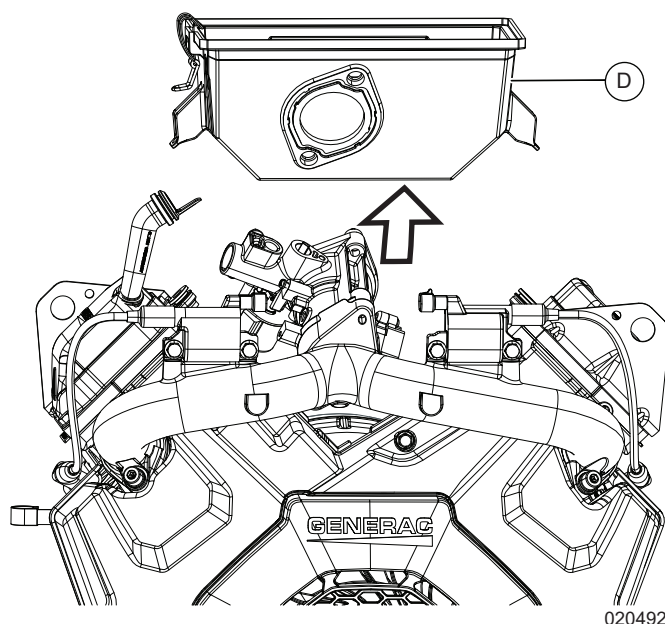

Figure 6-10. Remove Air Box Base From Engine
- See Figure 6-10. Lift air box base (D) assembly from engine.